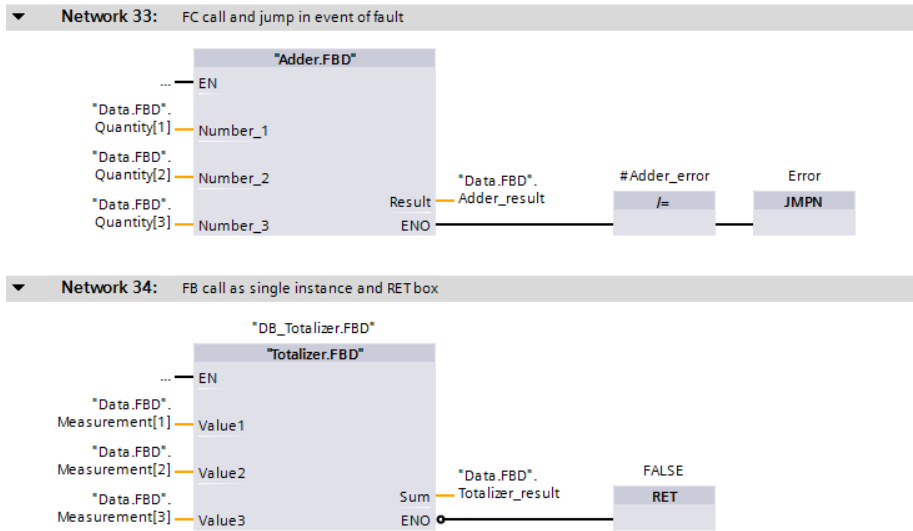

Fig. 8.39 Examples of functions for program control in the function block diagram
The top network in Fig. 8.39 shows the call of a function (FC). The function name is present as title in the call box. In the event of an error in the block (ENO is then “0”),
In the second network in Fig. 8.39, the block with the RET box is left if the “Totalizer.FBD” block signals an error. The ENO output of the exited block is set then to signal state “0” (FALSE).